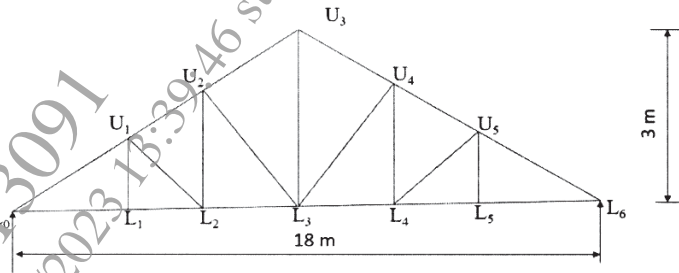

Figure 1
- Q5)** Determine panel point dead load, imposed load and wind load for a truss as shown in Figure 1. Assume design wind pressure as 1100 N/m^2 , use G.I. Sheet and the centre to centre spacing of truss as 4 m . Assume self-weight of purlin 120 N/m . [17]